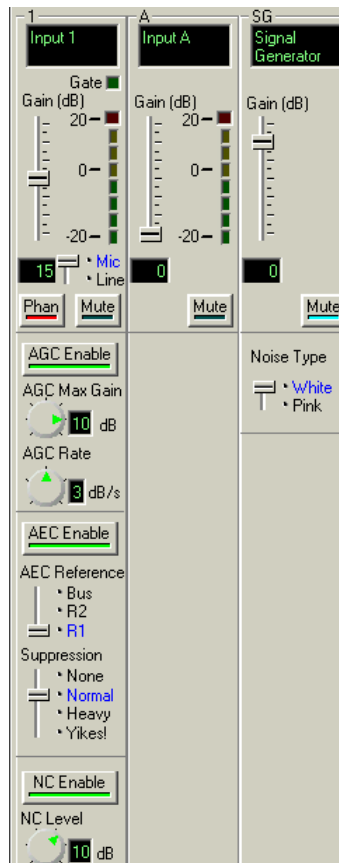

Figure 9. Vortex MIC/LINE INPUTS tab showing Mic/Line Input 1, Line Input A, and the Signal Generator.
The MIC/LINE INPUTS page contains all the controls required to configure the 12 inputs (8 mic/line inputs and the 4 line level inputs). Figure 9 shows a Mic/Line Input channel, a Line Input channel, and the Signal Generator – note that you can enable/disable an input from view with the numbered buttons on the top of the page. Once Input 1 is configured, the user may copy those settings to the other mics by clicking the COPY SETTINGS 1–8 button. The same capability exists to copy the settings from Input A to the remaining line level inputs.
- PHANTOM POWER. 24 V phantom power can be enabled or disabled (it is enabled in Figure 9).
- MUTE. This button is used to mute or unmute the input signal (MUTE is disabled in Figure 9).
- AEC ENABLE. This will enable or disable the acoustic echo canceller (AEC) (AEC is enabled in Figure 9). If enabled the user can select the reference signal to use either REF 1, REF 2, or the BUS REFERENCE.
- NC ENABLE. This will enable/disable noise cancellation (NC). If enabled, the user can select the amount of noise cancellation using NC LEVEL. NC LEVEL ranges from 0 to 15 dB of cancellation.